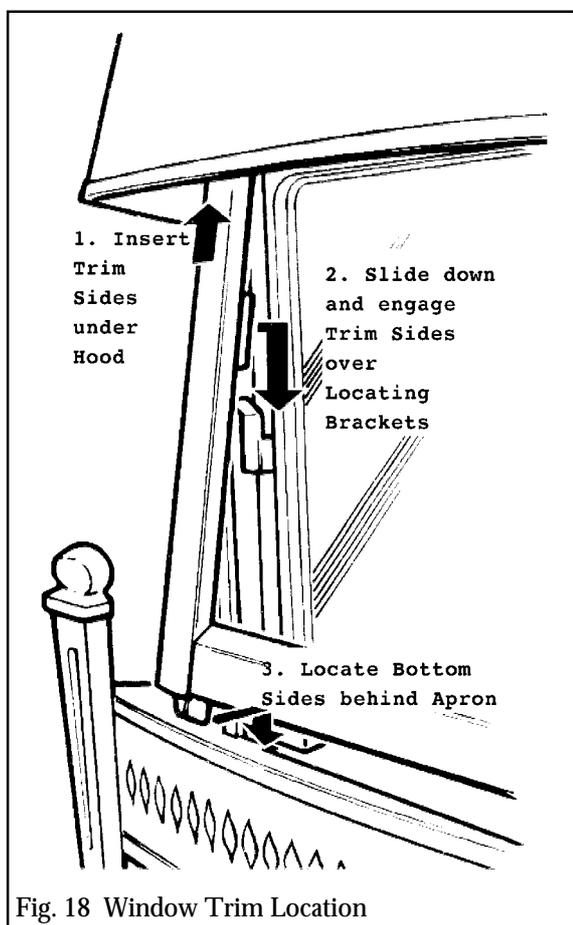

Fig. 18 Window Trim Location
**14.8** Fit the window trim. Insert the trim side channels under the bottom front of the hood. Slide them evenly upwards. Push the channels gently against the window frame sides so that the trim channels are fully upright. Slide the trim channels down so that the flanges on the inside of the channels locate fully over the angled brackets on the window frame sides - see figure 18.